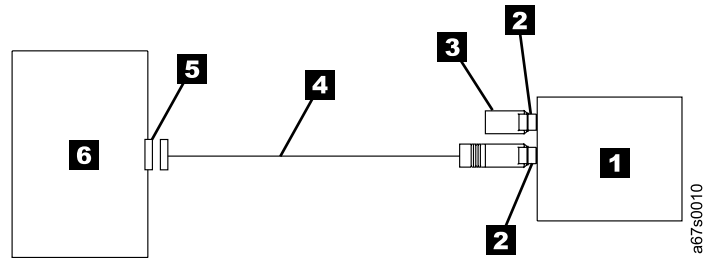

Figure 3. Example of connecting one SCSI device to the server. The view is from the top.
- **If the 3580 Ultrium 2 Tape Drive Is the Only Device On the SCSI Bus:** connect the SCSI bus cable to the server (see Figure 3).